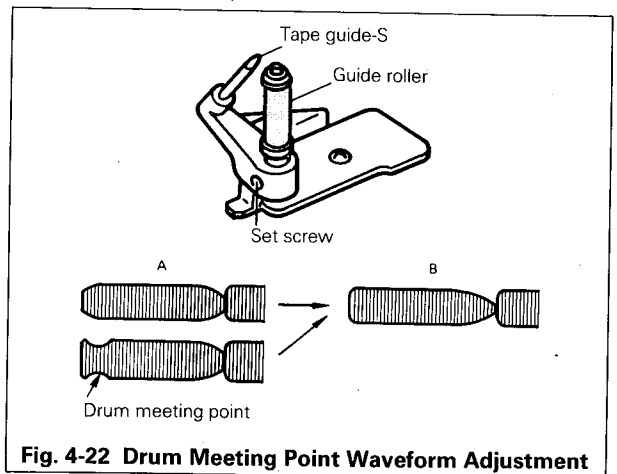

Fig. 4-22 Drum Meeting Point Waveform Adjustment
I. If the FM waveform is like, for instance, "A" of Fig. 4-22, adjust the supply guide roller so that the waveform will be flat like "B".